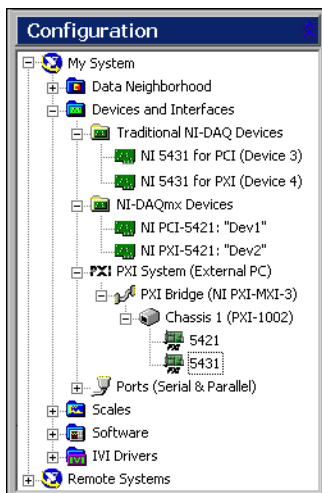

Figure 3. MAX Configuration Tree
2. Double-click **Devices and Interfaces** to see the list of installed devices. MAX automatically detects the installed device. The configuration tree lists both Traditional NI-DAQ devices and NI-DAQmx devices, as shown in Figure 3.